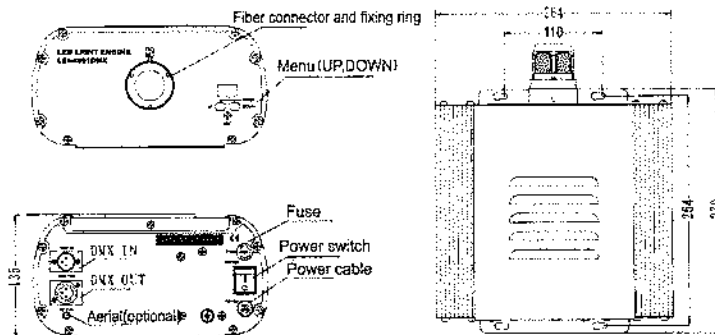

Fig.8
C. Installation dimension of light engine (see Fig.8):